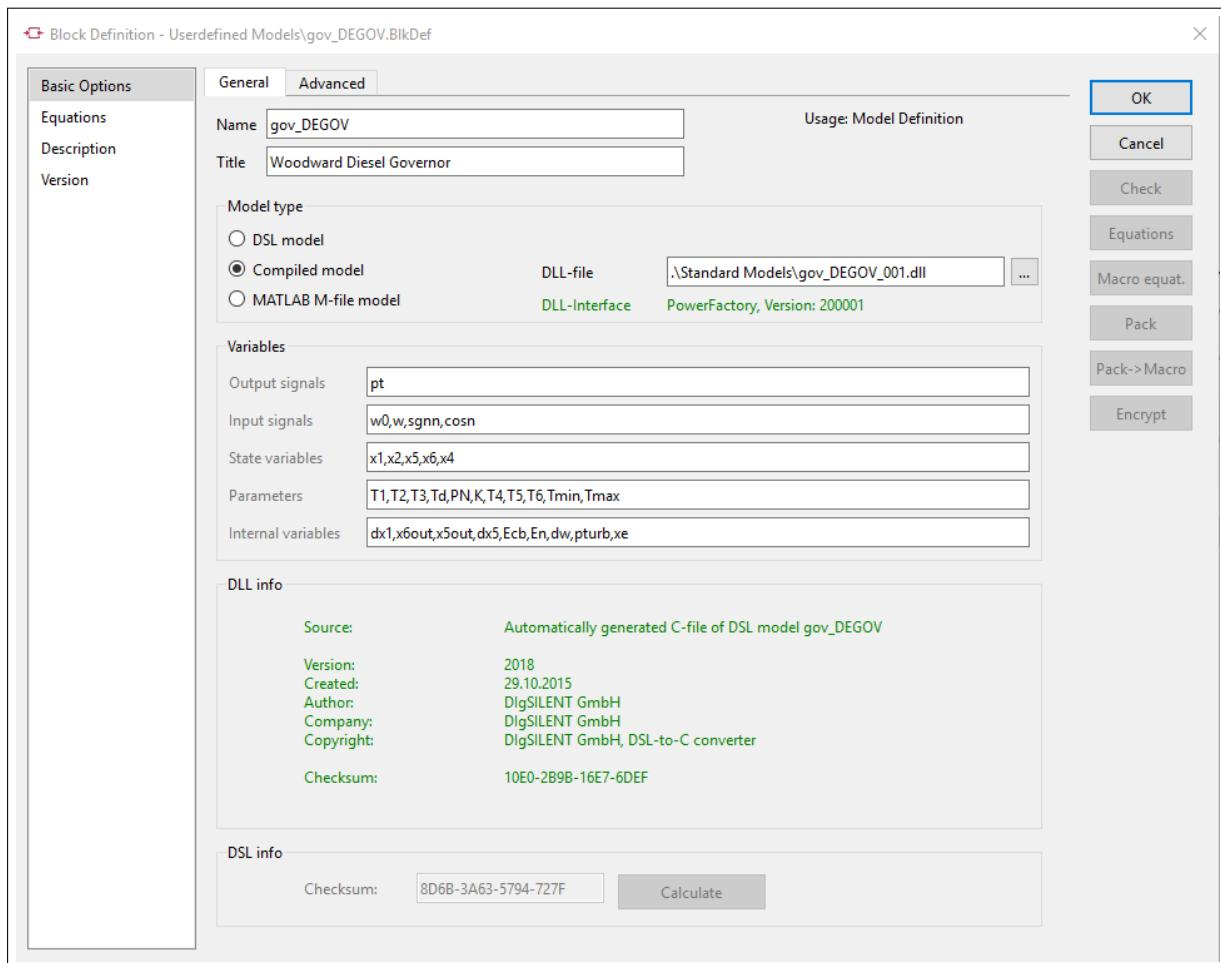

Figure 30.6.2: Compiled model options
*PowerFactory* automatically loads the DLL and in the *General* tab of the Block Definition (shown in Figure 30.6.2) it displays relevant information. The list of used variables (output and input signals, state variables, etc.) is shown in the Variables area (non-editable) and a summary of the DLL-file is shown in the “DLL info” area. The *Source* field states the name of the compiled model. The *PowerFactory* version, creation date, author, company and copyright owner are shown. The checksum field contains a 16-digit unique identifier of the original DSL model on which it has been based. If a DSL model is defined as well, then the checksum of the DSL block will also be shown in the “DSL-info” area (below the “DLL info” area). Based on the two available checksums, a direct comparison between the compiled and the DSL model can be performed to verify their equivalence.